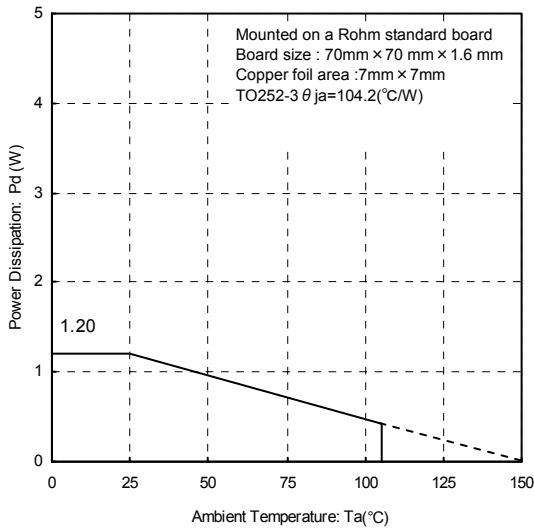
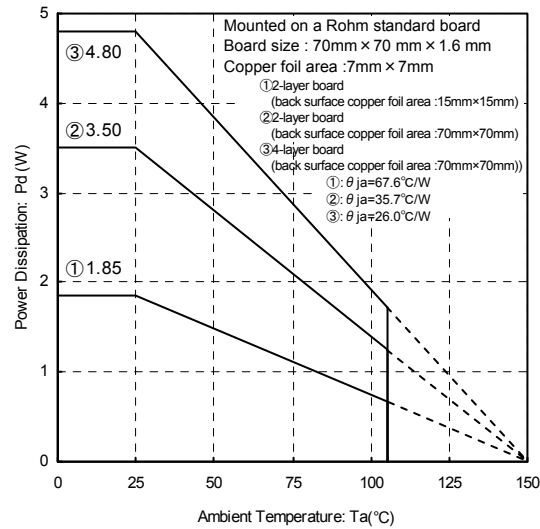

Fig.20
Fig.21(reference data)
When using at temperatures over $T_a=25^{\circ}\text{C}$, please refer to the heat reducing characteristics shown in Fig.20 and Fig.21. The IC characteristics are closely related to the temperature at which the IC is used, so it is necessary to operate the IC at temperatures less than the maximum junction temperature $T_{j\text{max}}$.
Fig.20 and Fig.21 shows the acceptable loss and heat reducing characteristics of the TO252S-3 package. Even when the ambient temperature T_a is a normal temperature (25°C), the chip (junction) temperature T_j may be quite high so please operate the IC at temperatures less than the acceptable loss P_d .
The calculation method for power consumption $P_c(\text{W})$ is as follows :(Fig.21③)
$$\left[\begin{array}{l} \text{Fig.21③} : \theta_{ja}=26.0^{\circ}\text{C/W} \rightarrow -38.4\text{mW}/^{\circ}\text{C} \\ 25^{\circ}\text{C}=4.80\text{W} \rightarrow 85^{\circ}\text{C}=2.496\text{W} \end{array} \right]$$